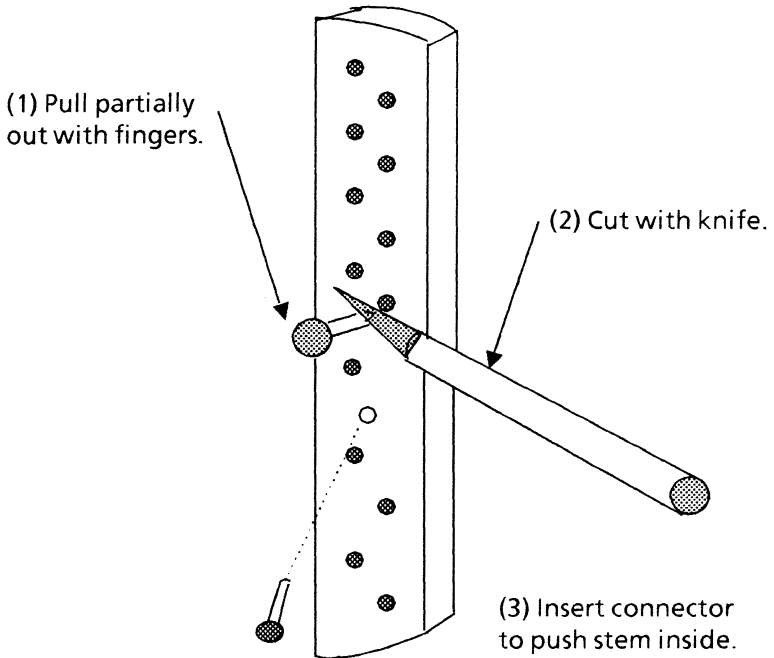

Figure 4-5 Plastic insert removal
3. Remove the plastic inserts installed in the DTB port receptacles, pins 9 and 22 (if applicable). The plastic inserts can be removed by cutting off the flared head with a knife or a pair of scissors (refer to Figure 4-5).